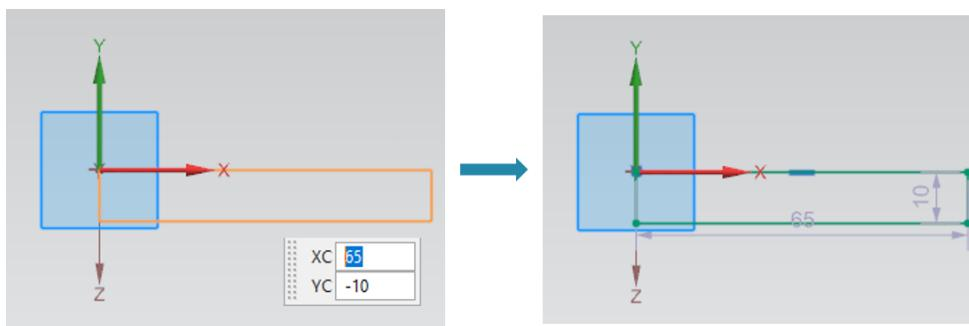

Figure 20: Preparing the sketch for a conveyor belt
- Follow the same procedure here as described in Chapter 7.1.1. However, since you are to sketch the side of the conveyor belt, a rectangle with dimensions **65x10 mm** must be created in this case based on the conveyor properties. You can see from Figure 20 that the YC value is "-10". The negative sign is necessary because of the inverted orientation of the sketch when the sketch was created in the previous step. Close the sketch when you have completed it.